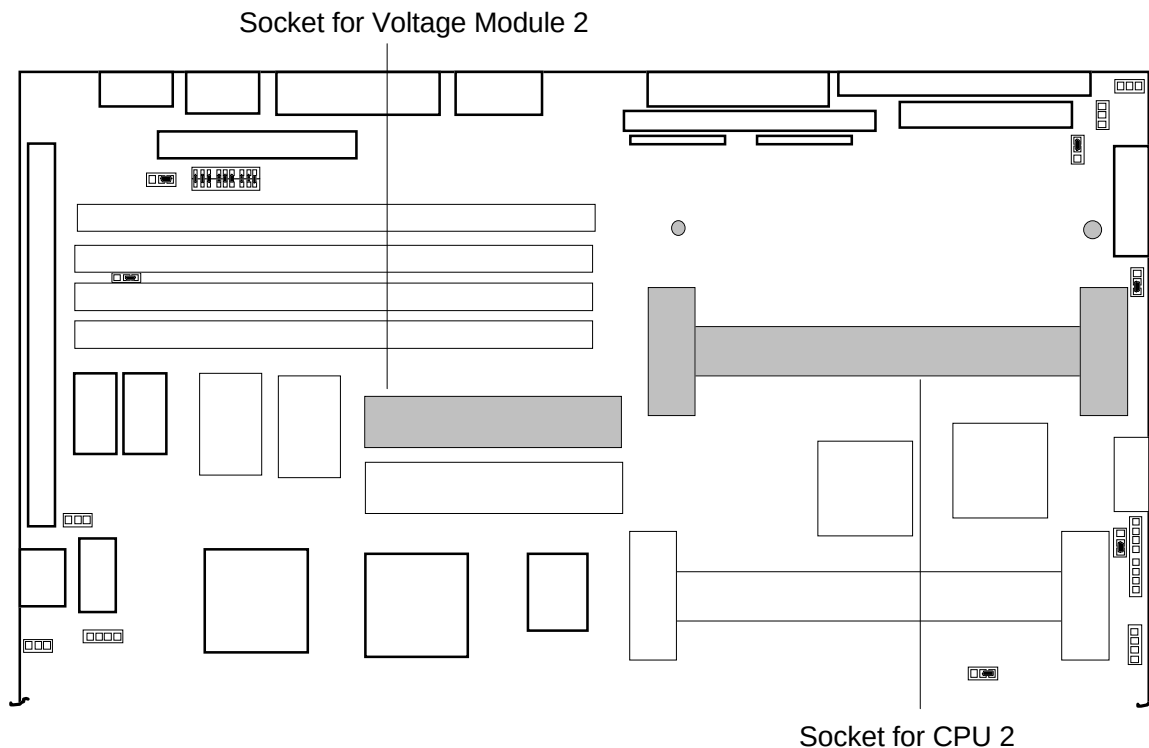

Figure 4-4. Optional Pentium II Processor
The system board has two sockets for Pentium II Processors. Figure 4-4 illustrates the location for the optional Pentium processor in your system. When adding a second processor, use the same type and speed as the processor shipped with your system. Contact your sales representative.
5. Locate the voltage module. The connector for the module (Figure 4-4) is keyed so it can only be inserted one way. Position the module over the socket on the board and press down evenly on the module until it seats correctly.